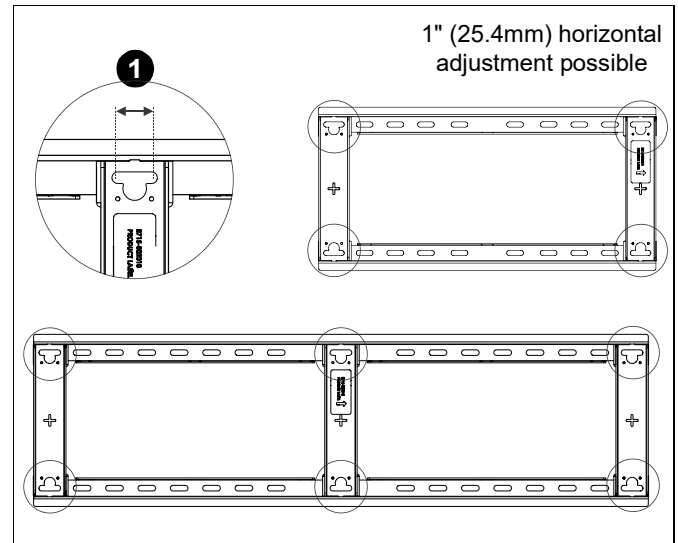

**Figure 14**
1. Hang screen onto the top rail of the mount (W/X). (See Figure 14)
- **RMF3/RLF3:** Hang top hook of interface brackets (S and T) onto the top rail of the mount (W/X). (See Figure 14)
- **RMT3/RLT3:** Hang top hook of interface brackets (U and V) onto the top rail of the mount (W/X). (See Figure 14)
4. Pull downward on the pull cords and swing inward toward wall, latching interface brackets to lower rail and fastening bottom of screen to the mount. (See Figure 14)
5. Attach end of pull cord (a magnet) to mount so it does not extend beyond bottom of screen. (See Figure 14)